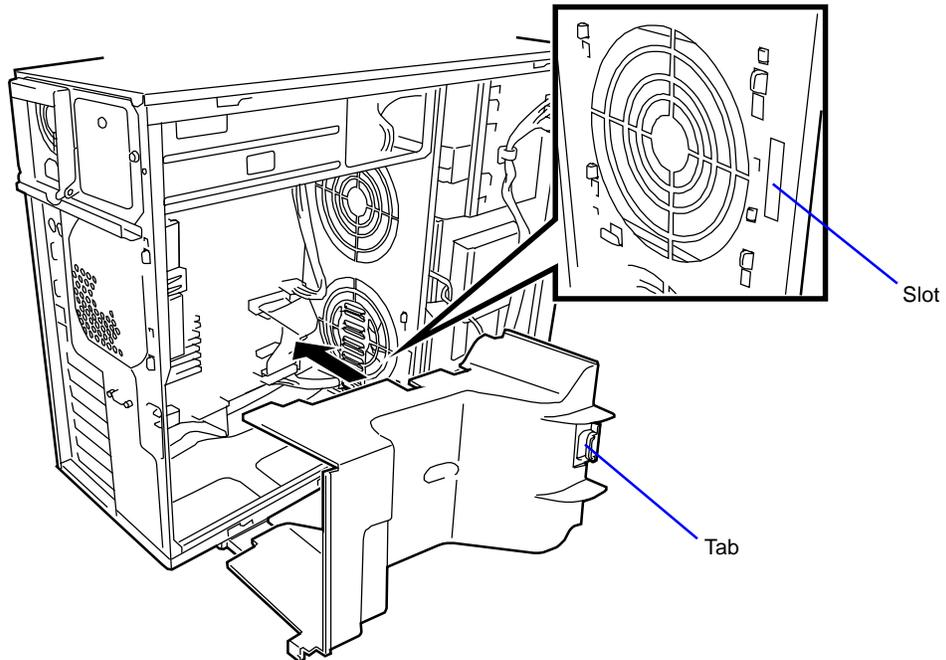

Figure 4-4. Installing The Air Duct
1. Holding the internal cables clear, place the air duct into the chassis. See Figure 4-4.